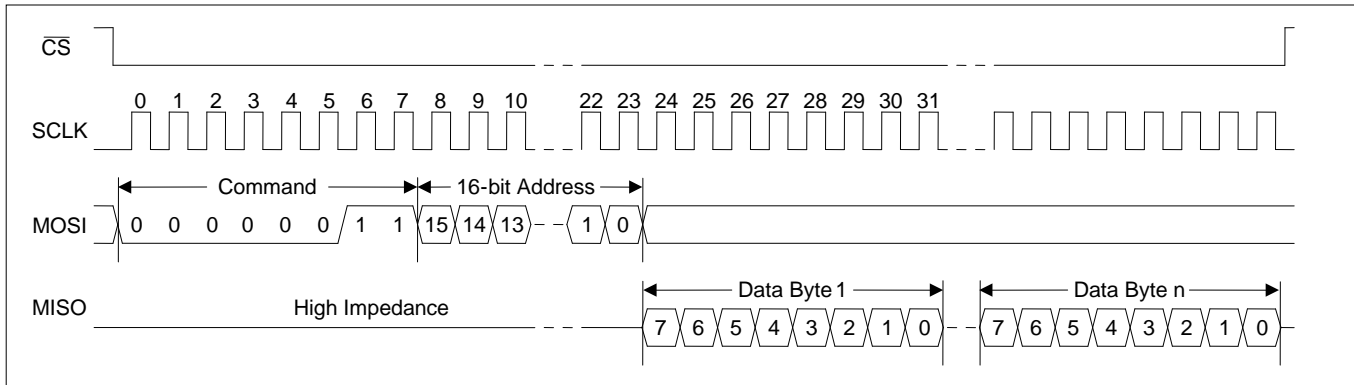

Figure 4 - SPI Read Transaction Functional Timing
**Read Transactions.** The device registers are accessible when **EESEL**=0. The internal EEPROM memory is accessible when **EESEL**=1. After driving CSN low, the bus master transmits the read command followed by the 16-bit address. The device then responds with the requested data byte on MISO, increments its address counter, and prefetches the next data byte. If the bus master continues to demand data, the device continues to provide the data on MISO, increment its address counter, and prefetch the following byte. The read transaction is completed when the bus master drives CSN high. See Figure 4.